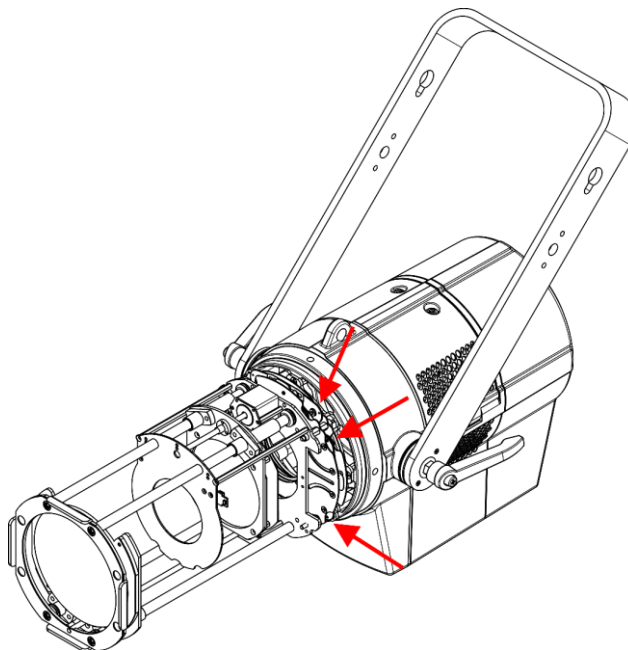

Fig. 09
02) Move the shutter controls to position the shutters (Fig. 09). There are 6 shutter controls (2 per shutter).